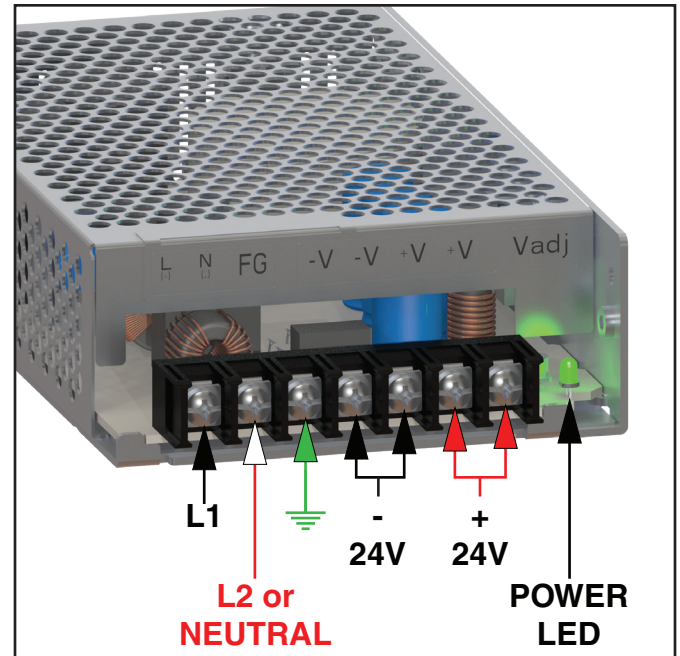

FIG. 23-2 SH POWER SUPPLY
4. Remove front panel . Verify LED is illuminated. Fig. 23-2 & 3.